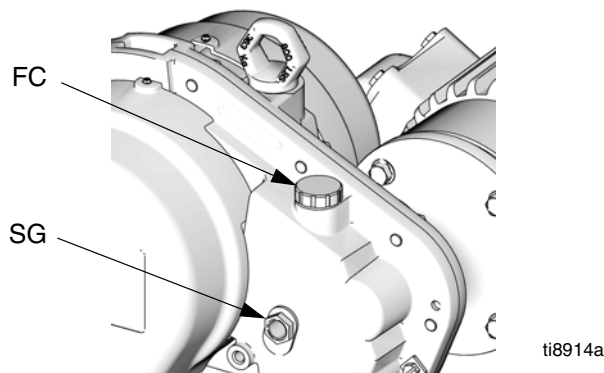

FIG. 6. Oil Fill
Open the fill cap (FC) and fill the gear reducer oil reservoir with 2 quarts (1.9 liters) of Graco 288414 Oil (twelve 1 quart bottles). Check the oil level in the sight glass (SG) on the gear reducer housing. Do not overfill. See FIG. 6.